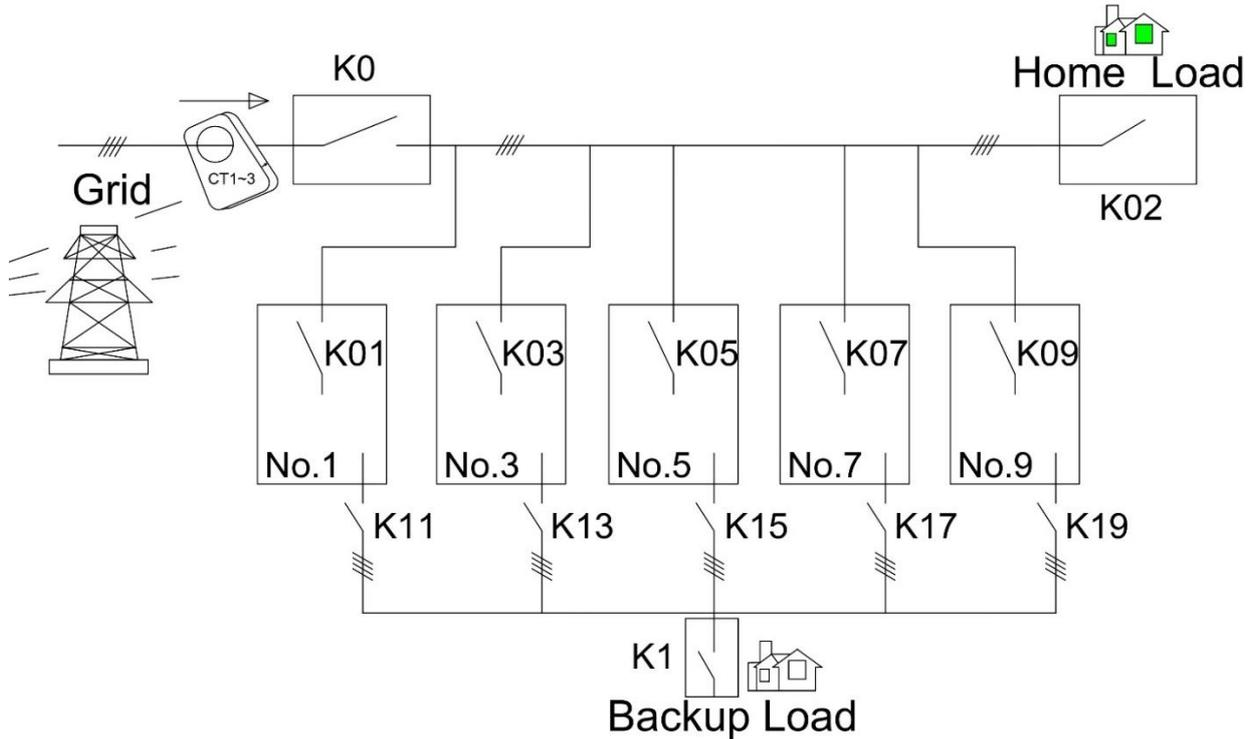

Figure 4.7 The connection diagram of five inverters
Figure 4.7 below shows the connection diagram of five inverters (No. 1, 3, 5, 7, 9). K0 is the main circuit breaker of the power grid. K11, K13, K15, K17, K19 are load circuit breakers, K1 is the load circuit breaker. K02 is a home load circuit breaker. Each inverter has its own power grid circuit breaker respectively K01, K03, K05, K07, K09.
a) Check whether the cable connection is correct as shown in Figure 4.7 (for BMS connection, CT or ammeter connection, battery connection, and ground cable connection, refer to the previous chapter.)